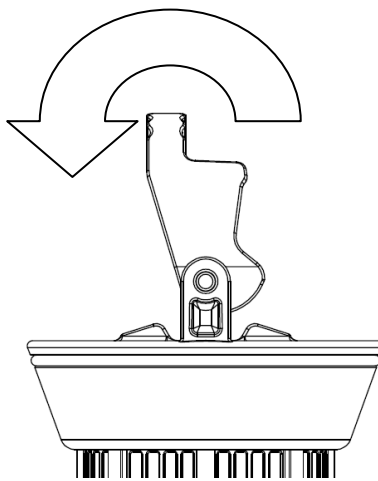

Fig. 6: Handle rotated 90°
- 2.5.1.3 Rotate basket handle approximately 90° upwards (towards top of vessel). This motion will unlock the bag retaining ring. (See fig. 6.)